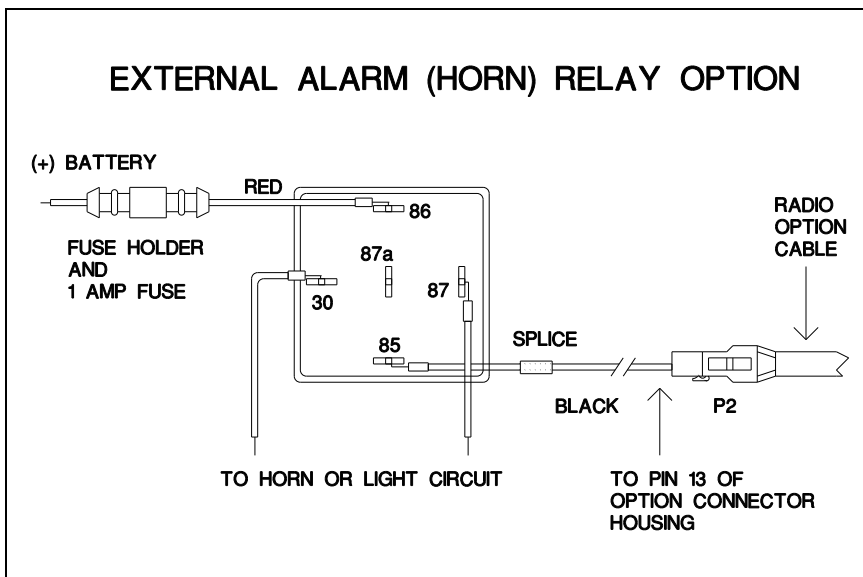

Figure 12 - External Alarm Relay
3. Crimp an insulated 1/4 inch spade tab receptacle to one end of the #18 red wire. Connect the receptacle to relay lug #86. Cut the red lead so the fuse assembly is close to the voltage source. Install the fuse holder. Attach the other end of the fuse lead to the voltage source with appropriate hardware. See Figure 12.